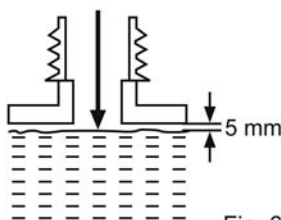

Fig. 6
- > Fill correctly mixed fuel/oil into the tank using a fuel funnel fitted with a filter to avoid debris entering the tank. Do not overfill. Leave a minimum 5 mm of space between the top of the fuel and the inside edge of the tank [11] to allow for expansion (Fig. 6).